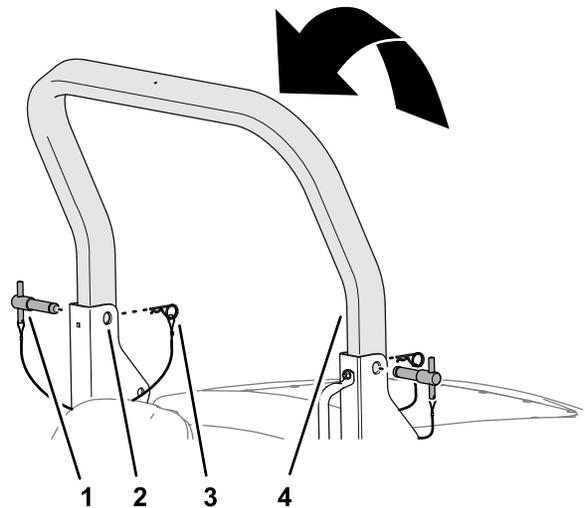

Figure 29
3. Raise the upper roll bar until the holes in the roll bar align with the pivot brackets (Figure 29).
4. Insert the roll-bar pins through the upper holes of the pivot brackets and the upper roll bar (Figure 29).
5. Secure roll-bar pins to the pivot brackets with the hairpins (Figure 29).